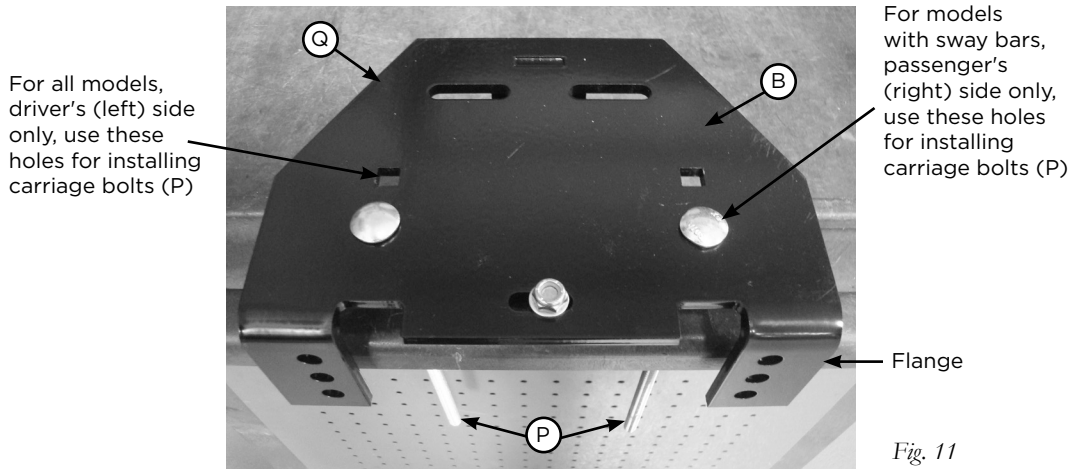

Fig. 11
5. Insert two 3/8"-16 X 10" carriage bolts (P) through the square holes in the lower bracket main plate (B) as shown. **For models with sway bars:** use the holes farthest from the flanges for the driver's (left) side, and the holes closest to the flanges for the passenger's (right) side installation (Fig. 11). **For all models without sway bar,** use the square holes farthest from the flange for both sides of the installation.